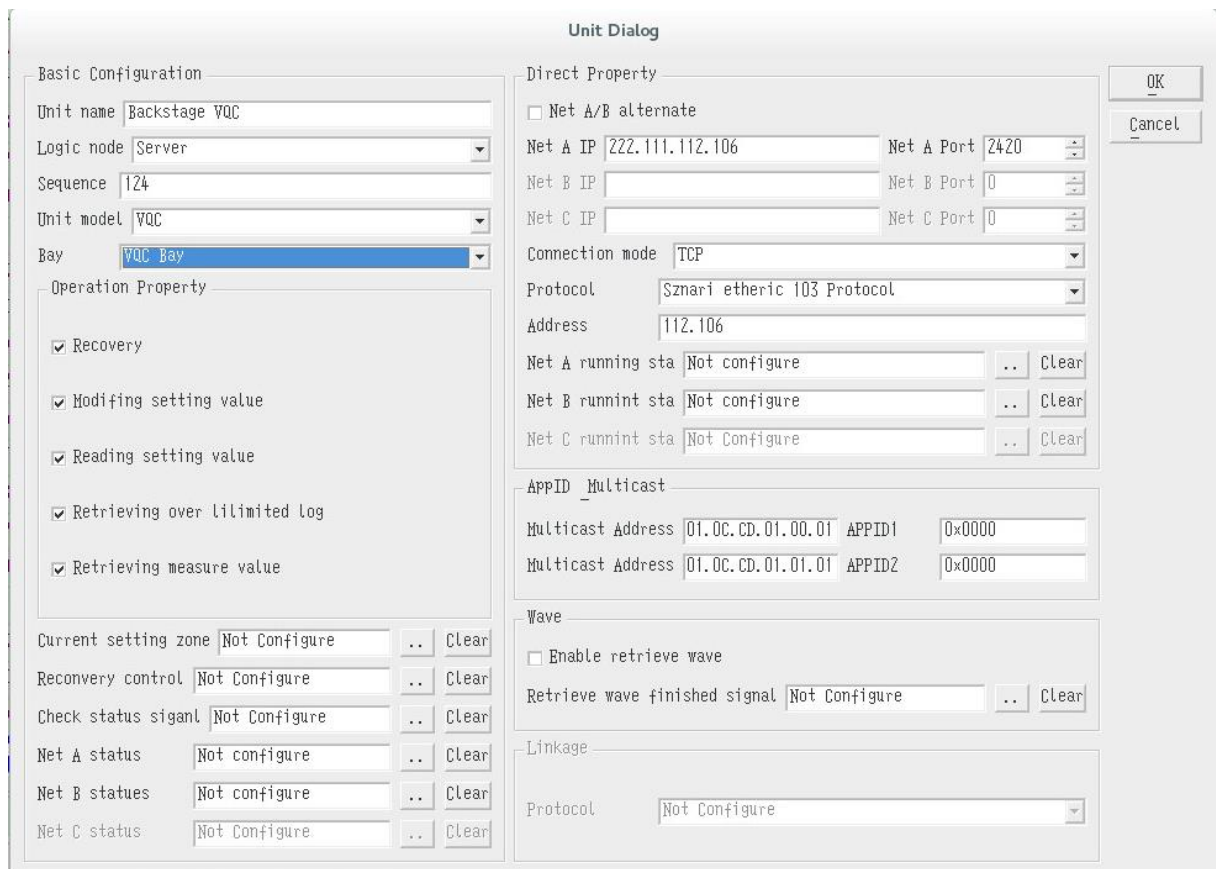

Figure 4.7.6 Configuration of VQC Secondary Devices
- 2) Configure the VQC device. The logic node shall be configured to server, and the direct connection property on the right can be freely configured but shall not conflict with existing direct connection device as shown in following Figure 4.7.6: